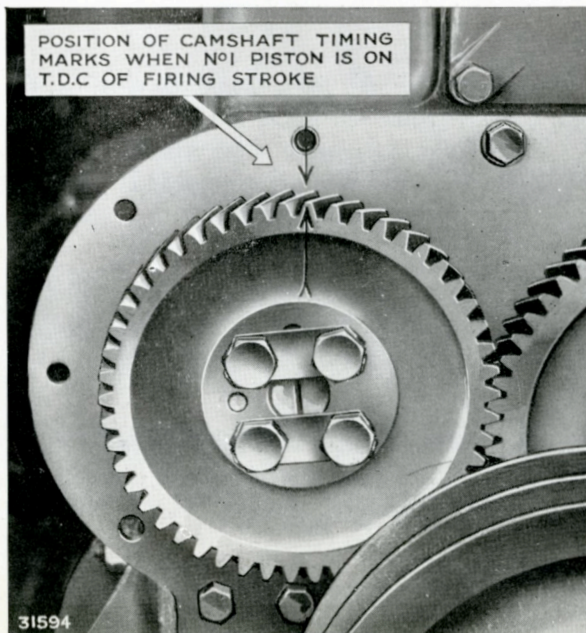

FIG. 31. CAMSHAFT TIMING MARKS
7. Remove the four setscrews and locking plates securing the gear to the camshaft and withdraw the gear, taking care to note the position of the timing mark on the gear in relation to the mark on the timing back plate when No. 1 piston is on T.D.C. of firing stroke, Fig. 31.
2. Fit the camshaft gear so that when the dowel hole in the gear locates on the dowel in the camshaft end, the arrows on the gear face and timing back plate are in line, Fig. 31, that is 90° to the outer face of the engine block.